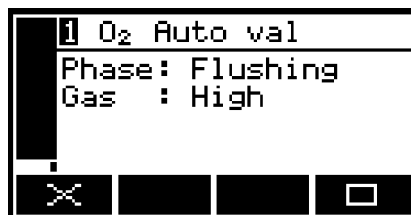
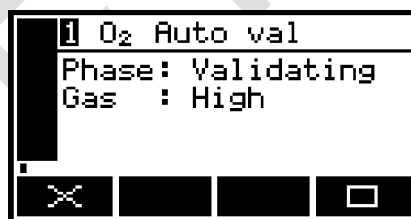
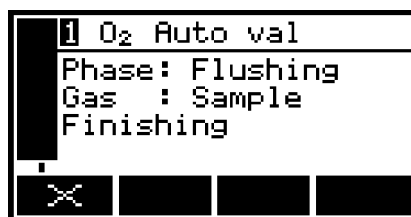

Figure 67 – The auto val/cal status screen (flushing phase)
Figure 68 – The auto val/cal status screen (validating phase)
Figure 69 – The auto val/cal status screen (finishing phase)
- The calibration screen, if displayed, (pre-warning and inerting phase off) will be updated to show the current phase and the gas being used, as shown in Figure 67 to Figure 69.
To stop an automatic validation/calibration which is in progress, close the stop auto val switch input on the appropriate interface connection (see Section 5.2.5) or use modbus command see Appendix A3. Alternatively, whenever an automatic validation/calibration is in progress and the  (stop) icon is shown on the auto val/cal status screen (see Figure 67 and Figure 68), you can press the  soft button to manually stop the automatic validation/calibration.